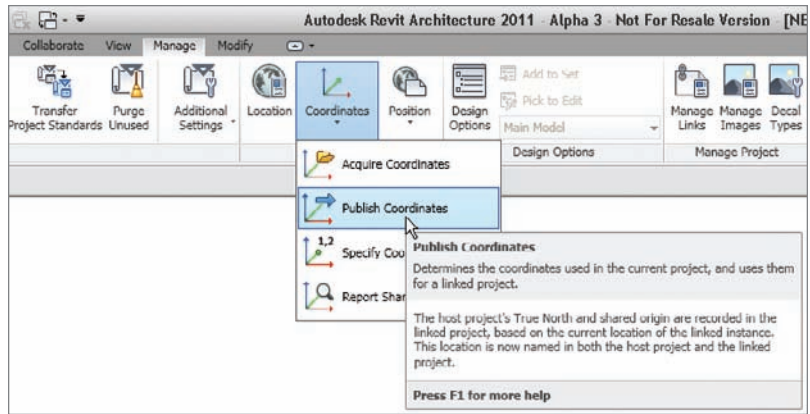

FIGURE 20.23 Publishing the coordinates
1. On the Project Location panel of the Manage tab, click Coordinates > Publish Coordinates, as shown in Figure 20.23.